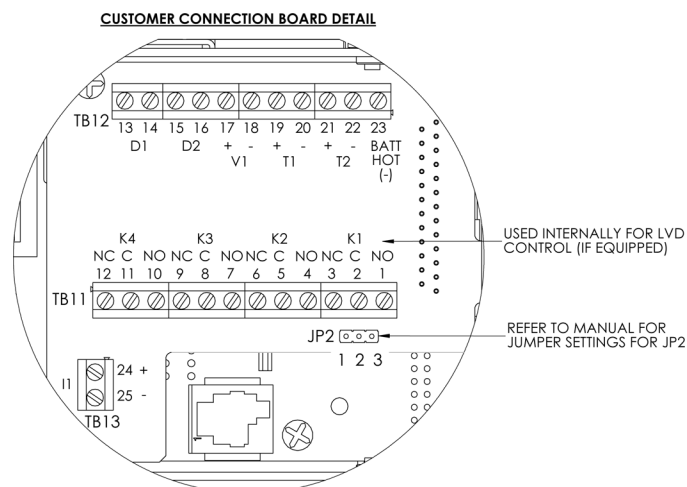

Figure 11—Location of LVD bypass jumper
- Locate JP2 on the back of CXCI system shelf (Figure 11)
- Locate JP2 on the back of CXCI/CXCI+ system shelf (Figure 11)